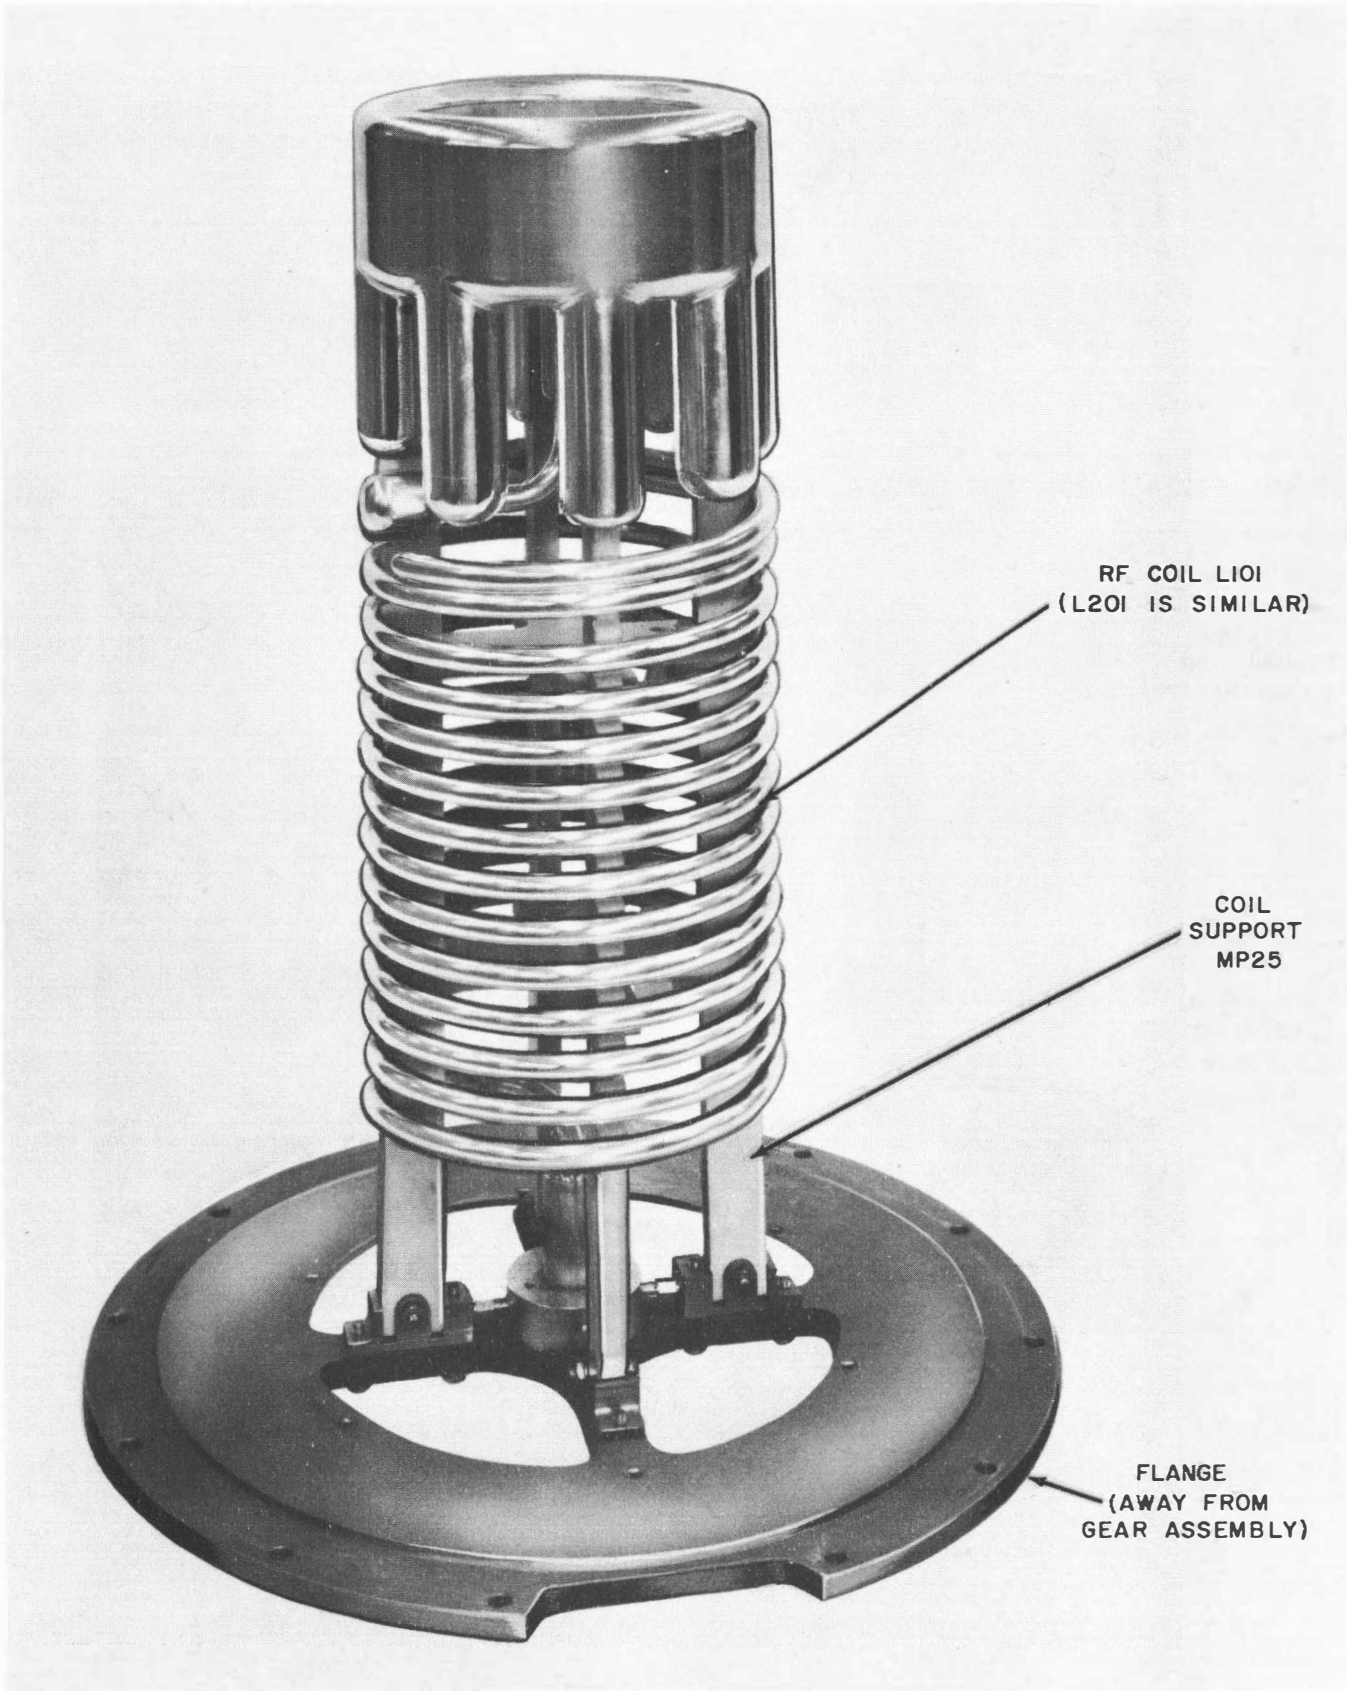

Figure 6-15. Coil Subassembly, Pickup Loop Removed
- (4) Remove r-f pick-up loop and insulator sleeve (see figure 6-15).